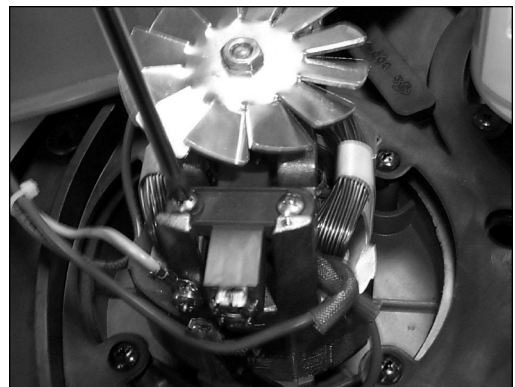

Fig. 3
5. Remove the carbon brush assembly by removing the 2 screws that attach it to the vac motor. See Figure 3